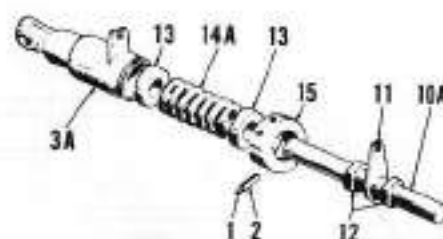

Fig. 165 — Exploded view of front end assembly of double acting (draft sensitive under both tension and compression) top link.
219. DOUBLE ACTING TOP LINK. Fig. 165 shows exploded view of late Implematic top link that is draft sensitive when under both tension and compression. Turnbuckle (9—Fig. 164) and threaded rear end assembly (8) for both the single and double acting top links as well as the flexible control cable (4, 5 & 6) are identical.
To unscrew the spring adjusting nut (15—Fig. 165), first loosen or remove set screw that locks nut in position on end housing (3A). Inner spring pin (1) must be installed inside outer pin (2) so that split sides of pin are away from each other. Adjust top link and flexible control cable as outlined in paragraph 204.
Fig. 164 — Exploded view of early type single acting draft sensitive top link assembly; refer to Fig. 165 for components of later top link that is draft sensitive when under either tension or compression.